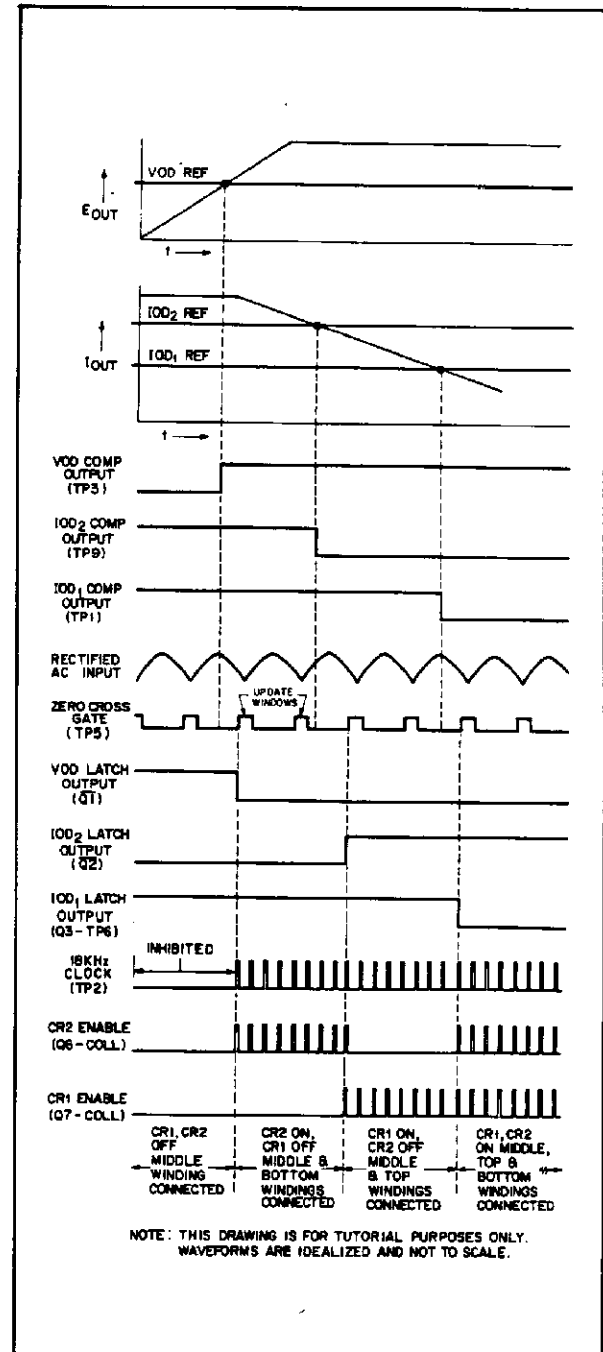

Figure 4-4. Control Logic Waveforms for Various Output Conditions
**4-27** Figure 4-4 shows the control logic waveforms associated with each of the four basic operating conditions discussed previously (paragraphs 4-9 through 4-11). During the first time period (starting at  $t = 0$ ) the output voltage sample is less than the VOD reference voltage at pin 5 of U3 and the output of the comparator is low (approximately  common). The output of the VOD latch ( $\overline{Q1}$  side of flip-flop 1) is high (approximately +5V) causing Q12 to conduct and clamp the clock line low. With the clock line held low, the output of the U4 NAND gates (pins 10 and 11) are maintained at a high level and no firing pulse can be generated regardless of the condition of the IOD inputs to the gates. As indicated on Figure 4-4, both triacs are off at this time and only the middle winding is connected to rectifiers U1 and U2.
4-29 Note that at sometime after the maximum ( $90^\circ$ ) point of each half cycle the triacs will cut off because the voltage across them is not sufficient to maintain conduction. The triacs remain cutoff through zero crossing and well into the next half-cycle until their minimum firing potential is exceeded. The first firing pulse that is received after this time will fire the triac(s) and the remaining pulses, received during the rest of the half cycle, will have no effect. The zero crossing detector U4, ensures that the firing decisions are always updated near the zero crossing point of the ac line, while the triacs are cutoff. As shown on Figure 4-4, the three decision latches cannot change state until the leading edge of the zero cross gate (TP5) is generated, even though the associated comparator may have changed state earlier in the half cycle.
4-30 Time period three in the example of Figure 4-4, is initiated when the output current falls below the  $IOD_2$  reference point. The output of the  $IOD_2$  comparator switches low at this time and at the next zero crossing point, the  $IOD_2$  latch is switched to its reset state ( $\bar{Q}2$  output goes high). The condition of the triacs during time slot three is the exact reverse of the conditions during time slot two; with CR1 conducting and CR2 off.